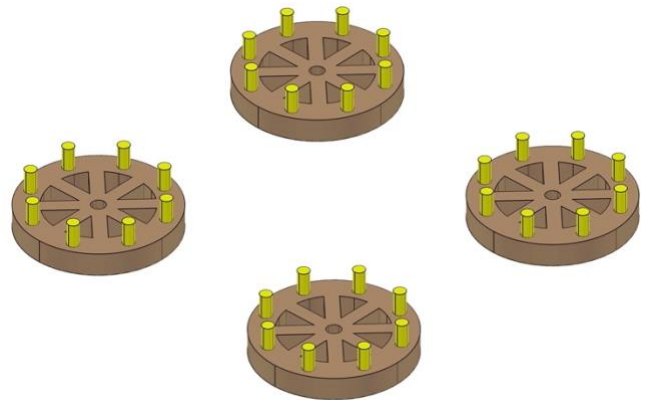

Fig. 44
- *Fig. 44* shows the completed process (make four parts).